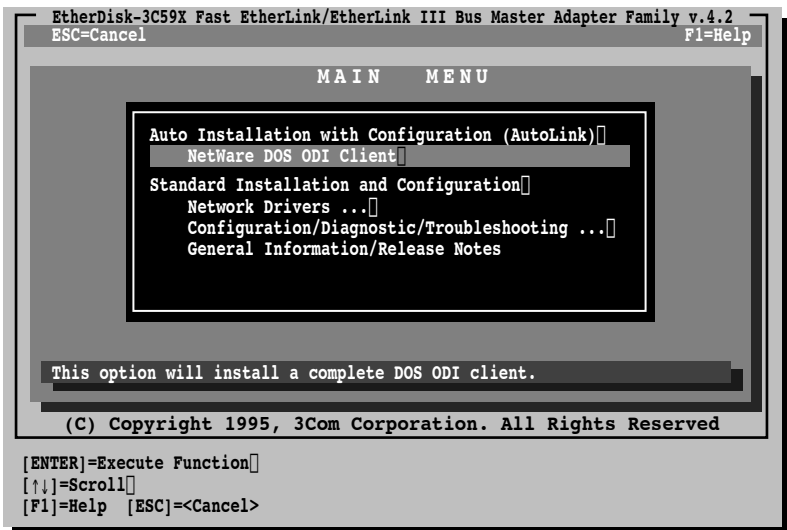

Figure 3-2 Main Menu
- 6 When the main menu screen shown in Figure 3-2 appears, select *NetWare DOS ODI Client*, and press [Enter].
- 2 When the main menu screen shown in Figure 3-2 appears, select *Network Drivers* and press [Enter].**
- 2 When the main menu screen shown in Figure 3-2 appears, select *Network Drivers* and press [Enter].